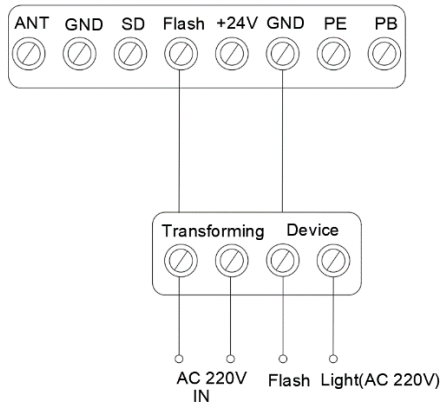
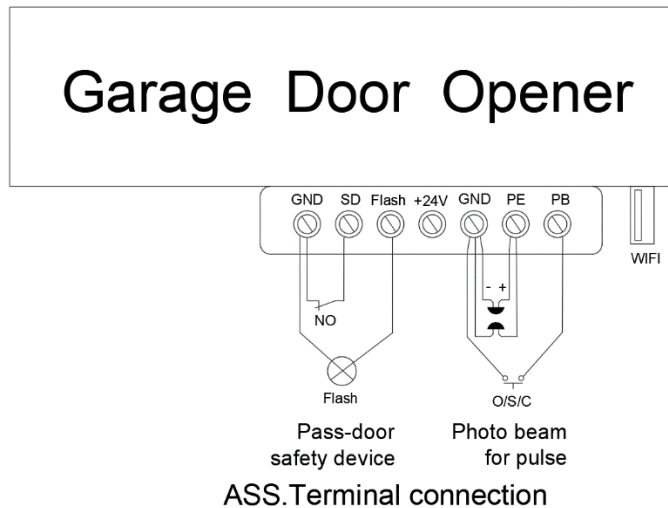

Figure 17
Figure 18
2. Flash light function. (Fig. 17, Fig. 18)
3. Pass door (SD) protection (Fig. 17, Fig. 18)
4. External power supply (BAT) and antenna (ANT), WIFI port.(Fig.18)